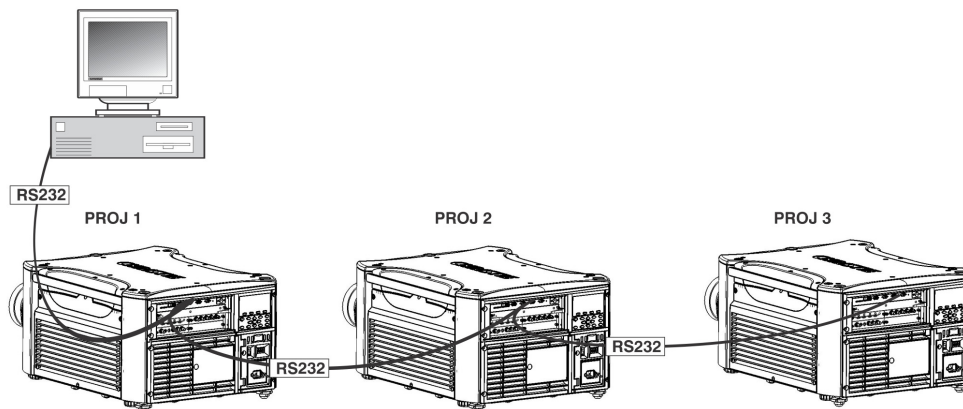

FIGURE 2-40 RS-232 NETWORK
3. Continue this pattern of connection with all projectors in the network. **NOTE:** The last projector in the network will have a connection to the RS-232 IN connector only. See Figure 2-40.